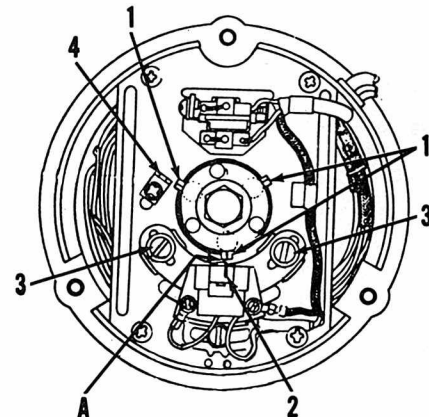

Fig. K6-3—Timing check and adjustment points for Mach III model. Air gap (A) should be from 0.008-0.016 inch.
To check ignition timing, remove left spark plug and install a dial gage. Remove left side engine cover and turn crankshaft until piston is 0.136 inch (3.45 MM) BTDC. Mark (1—Fig. K6-3) should just align with raised mark (2) on signal pick up and pointer (4) should be aligned with another projection on signal generator rotor. Pointer may then be used for future reference. Timing may be adjusted by turning signal pick up base plate after loosening screws (3).